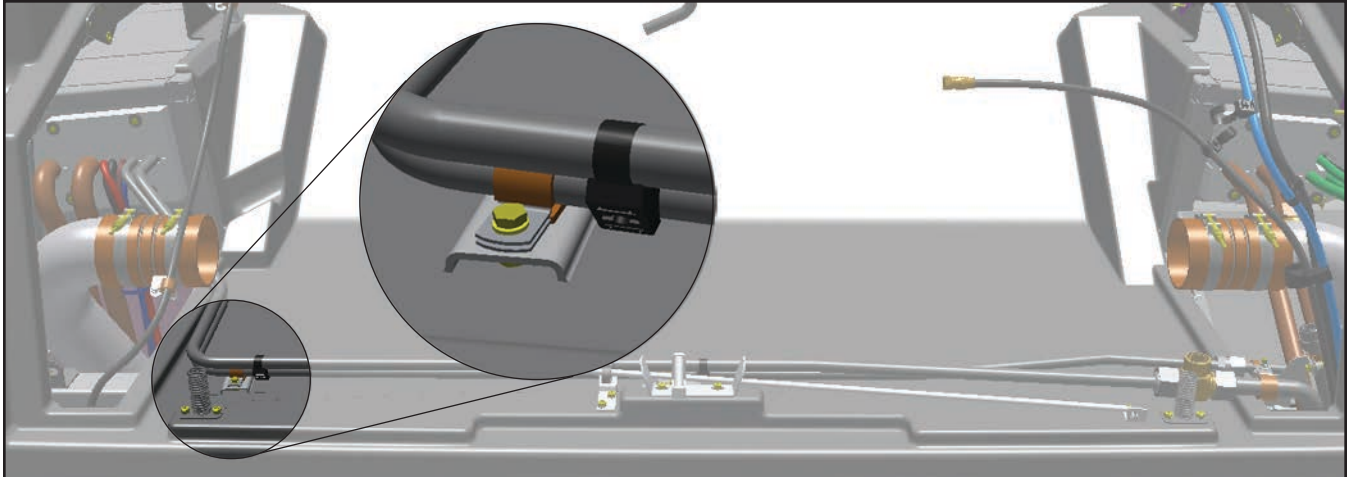

Figure 4 - Hydraulic Pipe Brackets
- 1.15. Make sure that the hydraulic pipe brackets, located in rear portion of the radiator compartments are still bonded to the rear shell. See Figure 4.